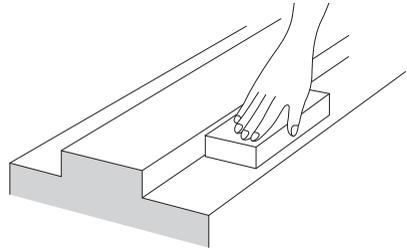

Fig.17
(1) Remove burr or knots from the LM rail mounting surface of the base using an oil-stone. (Fig.17)